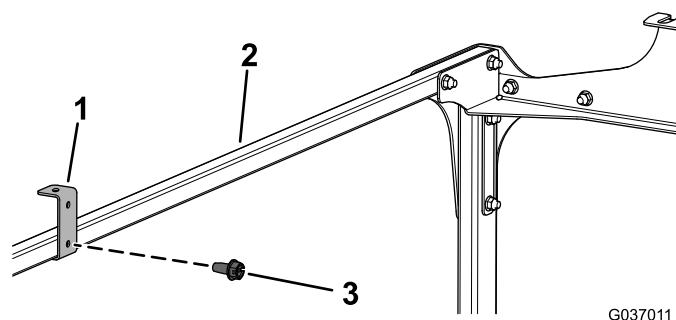

Figure 12
12. Install the 2 roof-support brackets to the crosslink tubes using 2 self-tapping screws (1/4 x 1/2 inch) as shown in Figure 12.